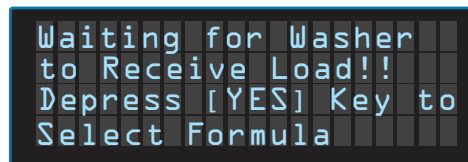

Figure 46. MicroPulse Display after canceling load.
- Press the **YES** key to continue. Once successfully canceled the display will show, "Waiting for Washer to Receive Load!!" (see Figure 46).